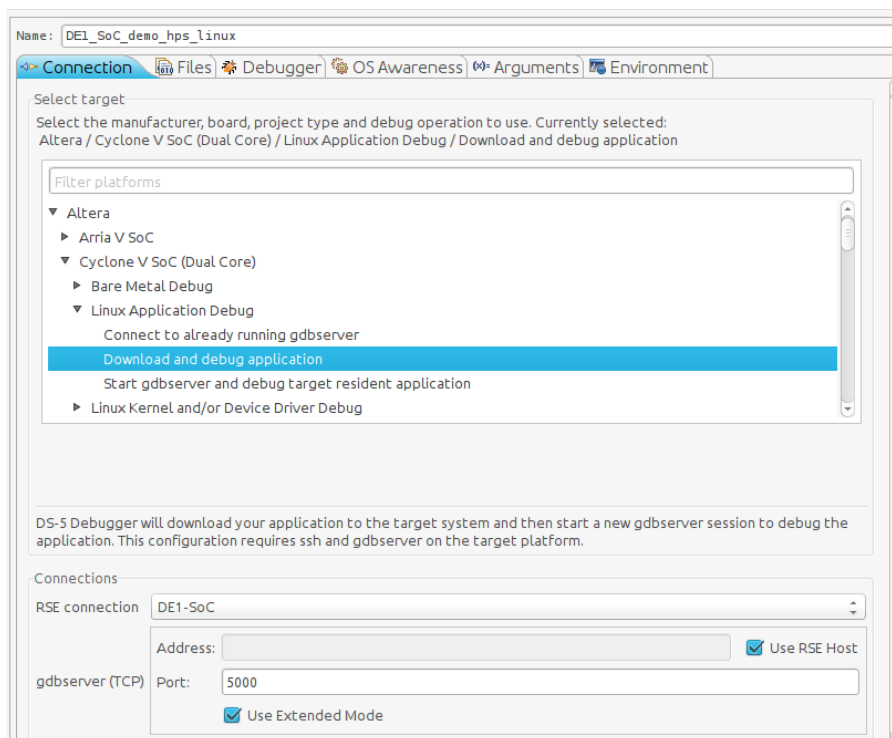

Figure 13-15. Debug Configuration "Connection" Tab
- b. Set the "RSE connection" to "DE1-SoC". This is the remote system connection we created earlier. You should have something similar to Figure 13-15.